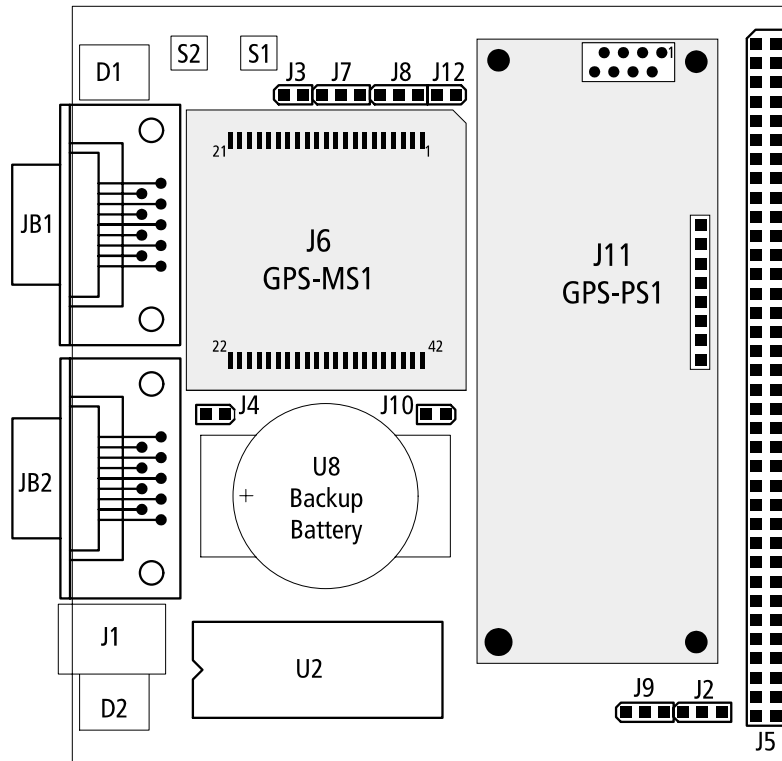

Figure 2.4: GPS-E1 Jumper Locations, Baseboard Version 12/98
4. Locate the pushbutton labelled F/W UPD. (S2 in figure 2.4)
5. Whilst pressing this button, push and release the RESET pushbutton(S1 in figure 2.4). Release the F/W button thereafter.